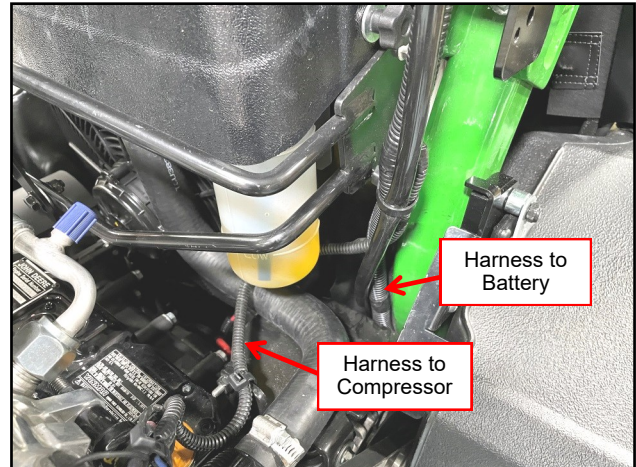
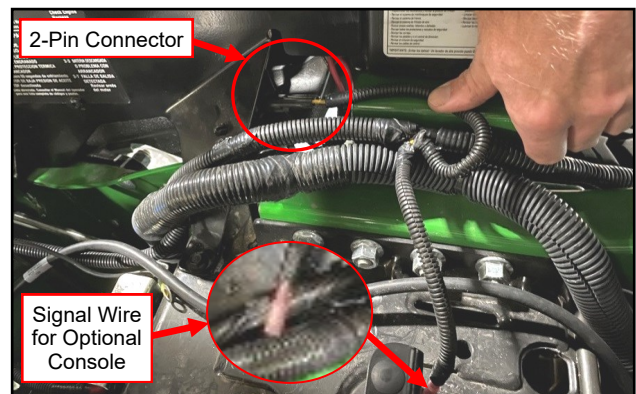

Fig. 2.28a (Routing AC Wire Harness)
Fig. 2.29 (Run Harness on Inside of Right Fender)
2.28 Per Figures 2.28a and b, run compressor part of the AC wire harness (ring and push-on terminals) to the compressor. Remove 3/8" Lock Nut and install ground ring terminal. Re-install 3/8" Lock Nut and connect the push-on terminal to terminal found on the compressor. Use supplied Wire Ties as need.
2.29 Pass the AC Wire Harness between the Radiator and right R.O.P.S as shown in Figure 2.28a. Continue to run the harness down the inside of the right fender. Connecting the harness' 2-pin connector to the vehicle harness per Figure 2.29. Use supplied Wire Ties as needed.